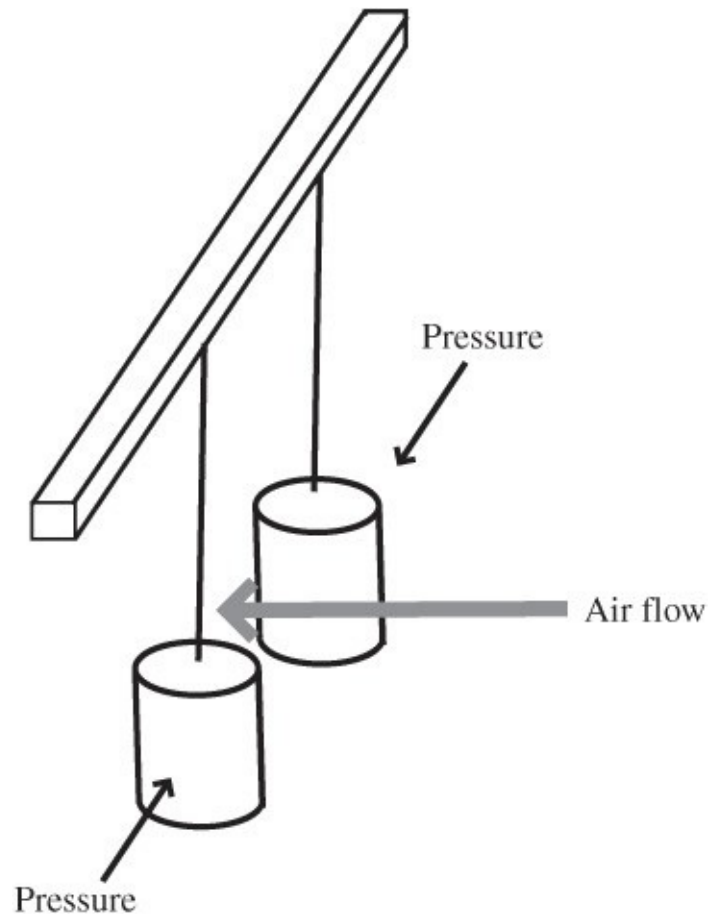

Figure 43-1 *Greater air velocity results in lower pressure to draw can together.*
3. Observe what happens (Figure 43-1).